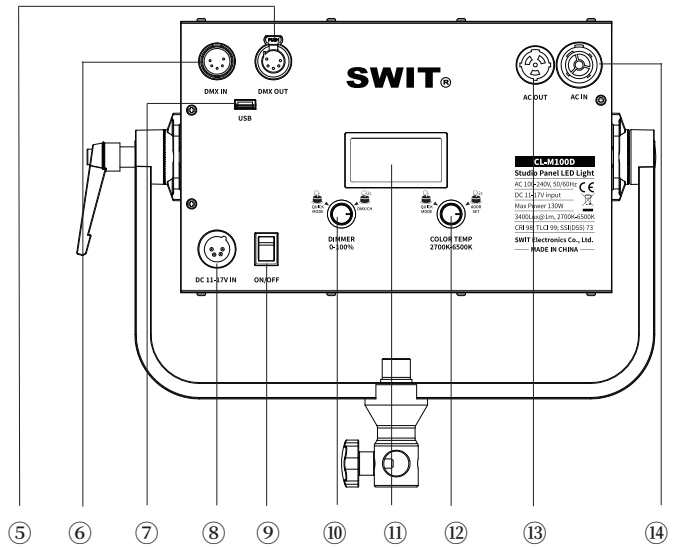
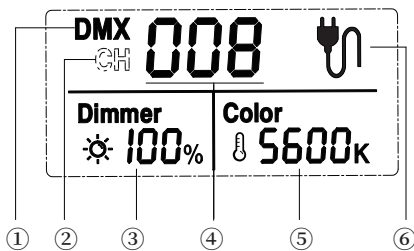

Fig.4 CL-M100D Back View
Fig.5 LCD Information
This product supports two brightness/color temperature adjustment modes: normal adjustment mode, fast adjustment mode.Switch according to the brightness/color temperature adjustment knob (Figure 4 ⑩/ unkind) . Users can quickly set brightness and color temperature by combining these two adjustment modes according to their needs.
Hold the brightness adjustment knob (As shown in Figure 4 ⑩) for about 2 seconds to enter the communication address setting interface. The communication address setting range is 001-512. The LCD (Figure 5 ④) blinks, indicating that the current position is selected. Rotate the brightness adjustment knob (Figure 4 ⑩) to set the current position and press the brightness adjustment Knob (Figure 4 ⑩) to determine the current bit Settings and enter the next bit Settings. When the last bit Settings are completed, press the brightness adjustment knob (Figure 4 ⑩) or wait for
Connect the lamps through DMX, and press the color temperature adjustment knob (FIG. 4) for about 2s to complete the setting of the communication control mode of the lamps.
"DMX" is displayed in the upper left corner of LCD (Fig. 5 ①), indicating that the current communication control mode supported by the lamp is DMX communication mode.In this mode, the DMX signal output device is connected to the lamp network, the communication address is set, and it can be used normally.
"CH" is displayed in the upper left corner of LCD (Figure 5 ②), indicating that the communication control mode currently supported by the lamp is mutual control mode.In this mode, the target lamps are set to the same communication address and can be used normally without distinguishing the master and slave machines.